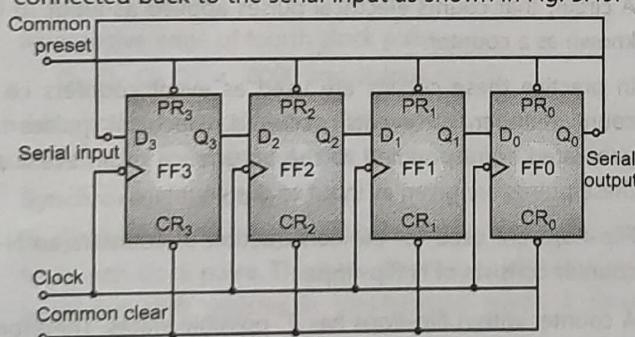

Fig. 3.49 : Ring counter
- The shift register acts as ring counter, if the serial output is connected back to the serial input as shown in Fig. 3.49.